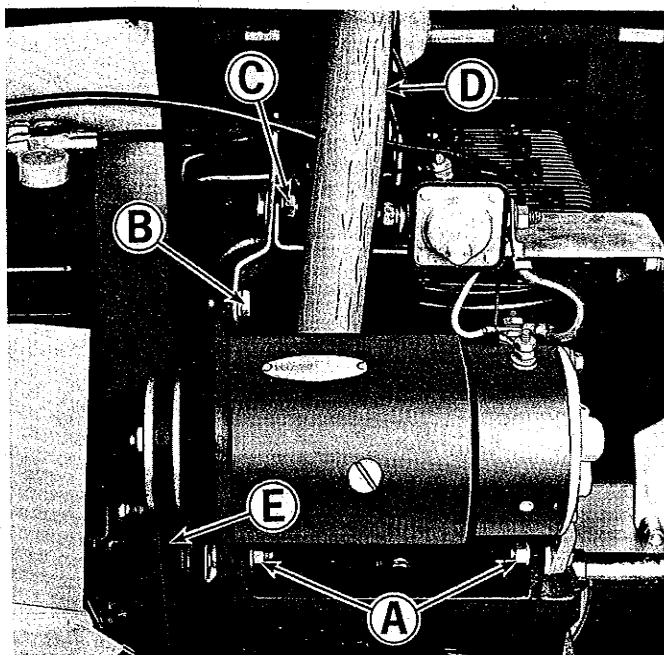

Figure 14. Generator located on right side of engine.
See figure 14. If the starter turns, but the engine does not rotate, the starter generator belt may need tightening. Proceed as follows:
2. See figure 14. Loosen slightly the two nuts (A) cap screw (B) and nut (C). Use a pry bar similar to the one shown between the generator and engine block to apply pressure to the generator and tighten the belt. The belt should be tight enough so thumb pressure at (E) will deflect it about 1/4".
3. While holding the pry bar to maintain tension on the belt, tighten the mounting bracket at (C) securely.
4. Actuate the starter to make sure the engine will rotate. If it does not, loosen the nut at (C) and apply more tension to the belt.
5. Tighten the two nuts at (A) and the cap screw (B) securely.